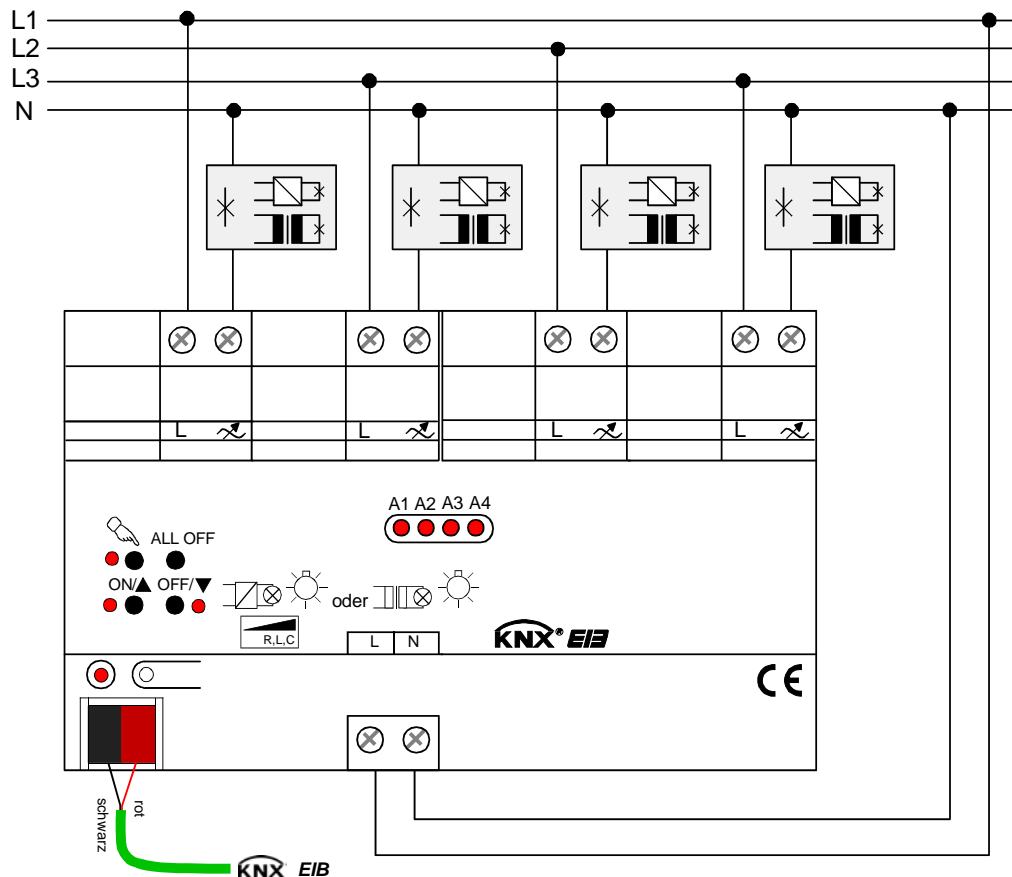

Fig. 1: Electrical connection of mains voltage supply and load
- Connect the mains voltage supply, the loads and the bus line as shown in fig. 1 (wiring example).